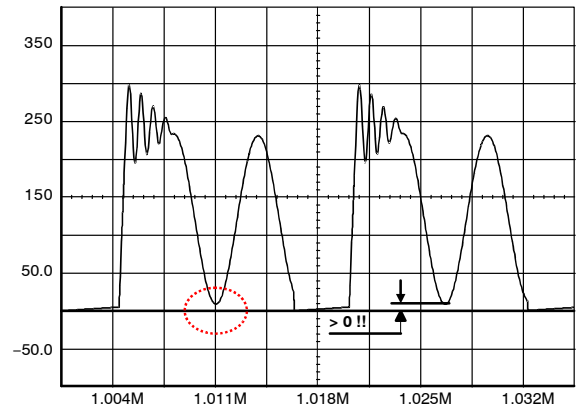

Figure 45. The Drain-Source Wave Shall Always be Positive
1. The lateral MOSFET body-diode shall never be forward biased, either during start-up (because of a large leakage inductance) or in normal operation as shown in Figure 45. This condition sets the maximum voltage that can be reflected during t_{off} . As a result, the Flyback voltage which is reflected on the drain at the switch opening cannot be larger than the input voltage. When selecting components, you thus must adopt a turn ratio which adheres to the following equation:
Figure 47a: the simple capacitor limits the voltage according to the lateral MOSFET body–diode shall never be forward biased, either during start–up (because of a large leakage inductance) or in normal operation as shown by Figure 45. This condition sets the maximum voltage that can be reflected during t_{off} . As a result, the flyback voltage which is reflected on the drain at the switch opening cannot be larger than the input voltage. When selecting components, you must adopt a turn ratio which adheres to the following equation eq. 5. This option is only valid for low power applications, e.g. below 5 W, otherwise chances exist to destroy the MOSFET. After evaluating the leakage inductance, you can compute C with (eq. 6). Typical values are between 100 pF and up to 470 pF. Large capacitors increase capacitive losses...